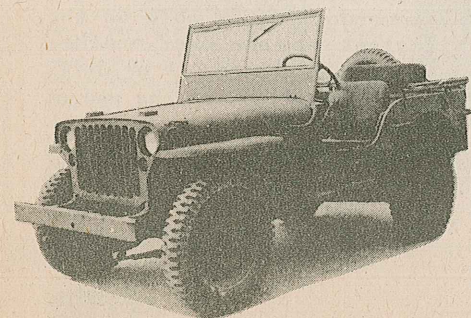

FIG. 1. ¼-TON, 4X4, TRUCK ("JEEP")
*The ¼-ton, 4 x 4, truck.*—This vehicle, known as a "jeep," has almost unlimited uses (Fig. 1). Primarily, however, it is a light-weapon and personnel carrier for the Infantry. It may be used as a combat vehicle since it can tow into action the 37-mm. antitank artillery weapon weighing approximately 800 pounds. It also is used as a command-reconnaissance car.